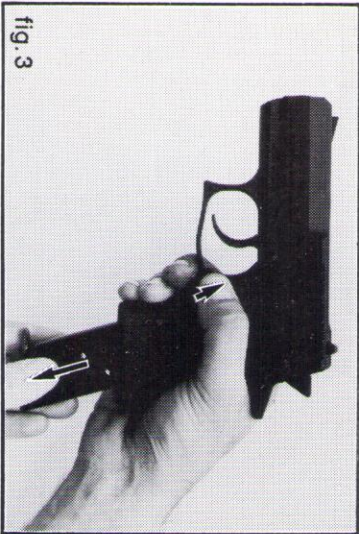

fig. 3
2. Press the magazine release button on the left hand side of the pistol (fig. 3) and remove the magazine.